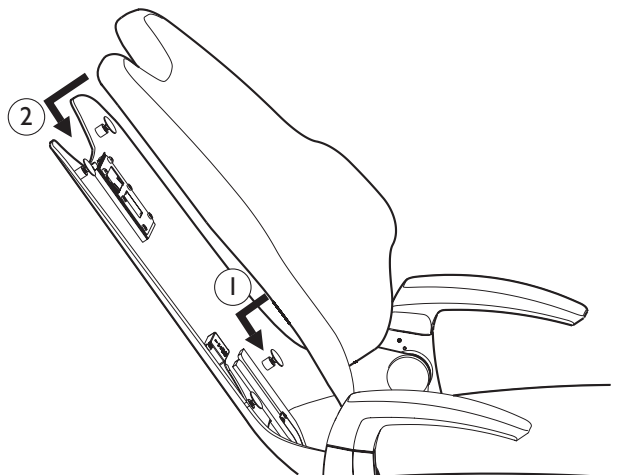

Figure 12. Assembling the backrest upholstery
- 1** Attach the backrest upholstery by aligning the lower keyhole features in the plastic substrate to the flat head elevator bolts on the metal back (Figure 12, item 1).
- 2** Push down and slide the backrest upholstery toward the seat (Figure 12, item 2) until the upper keyhole features catch on the upper elevator bolts.